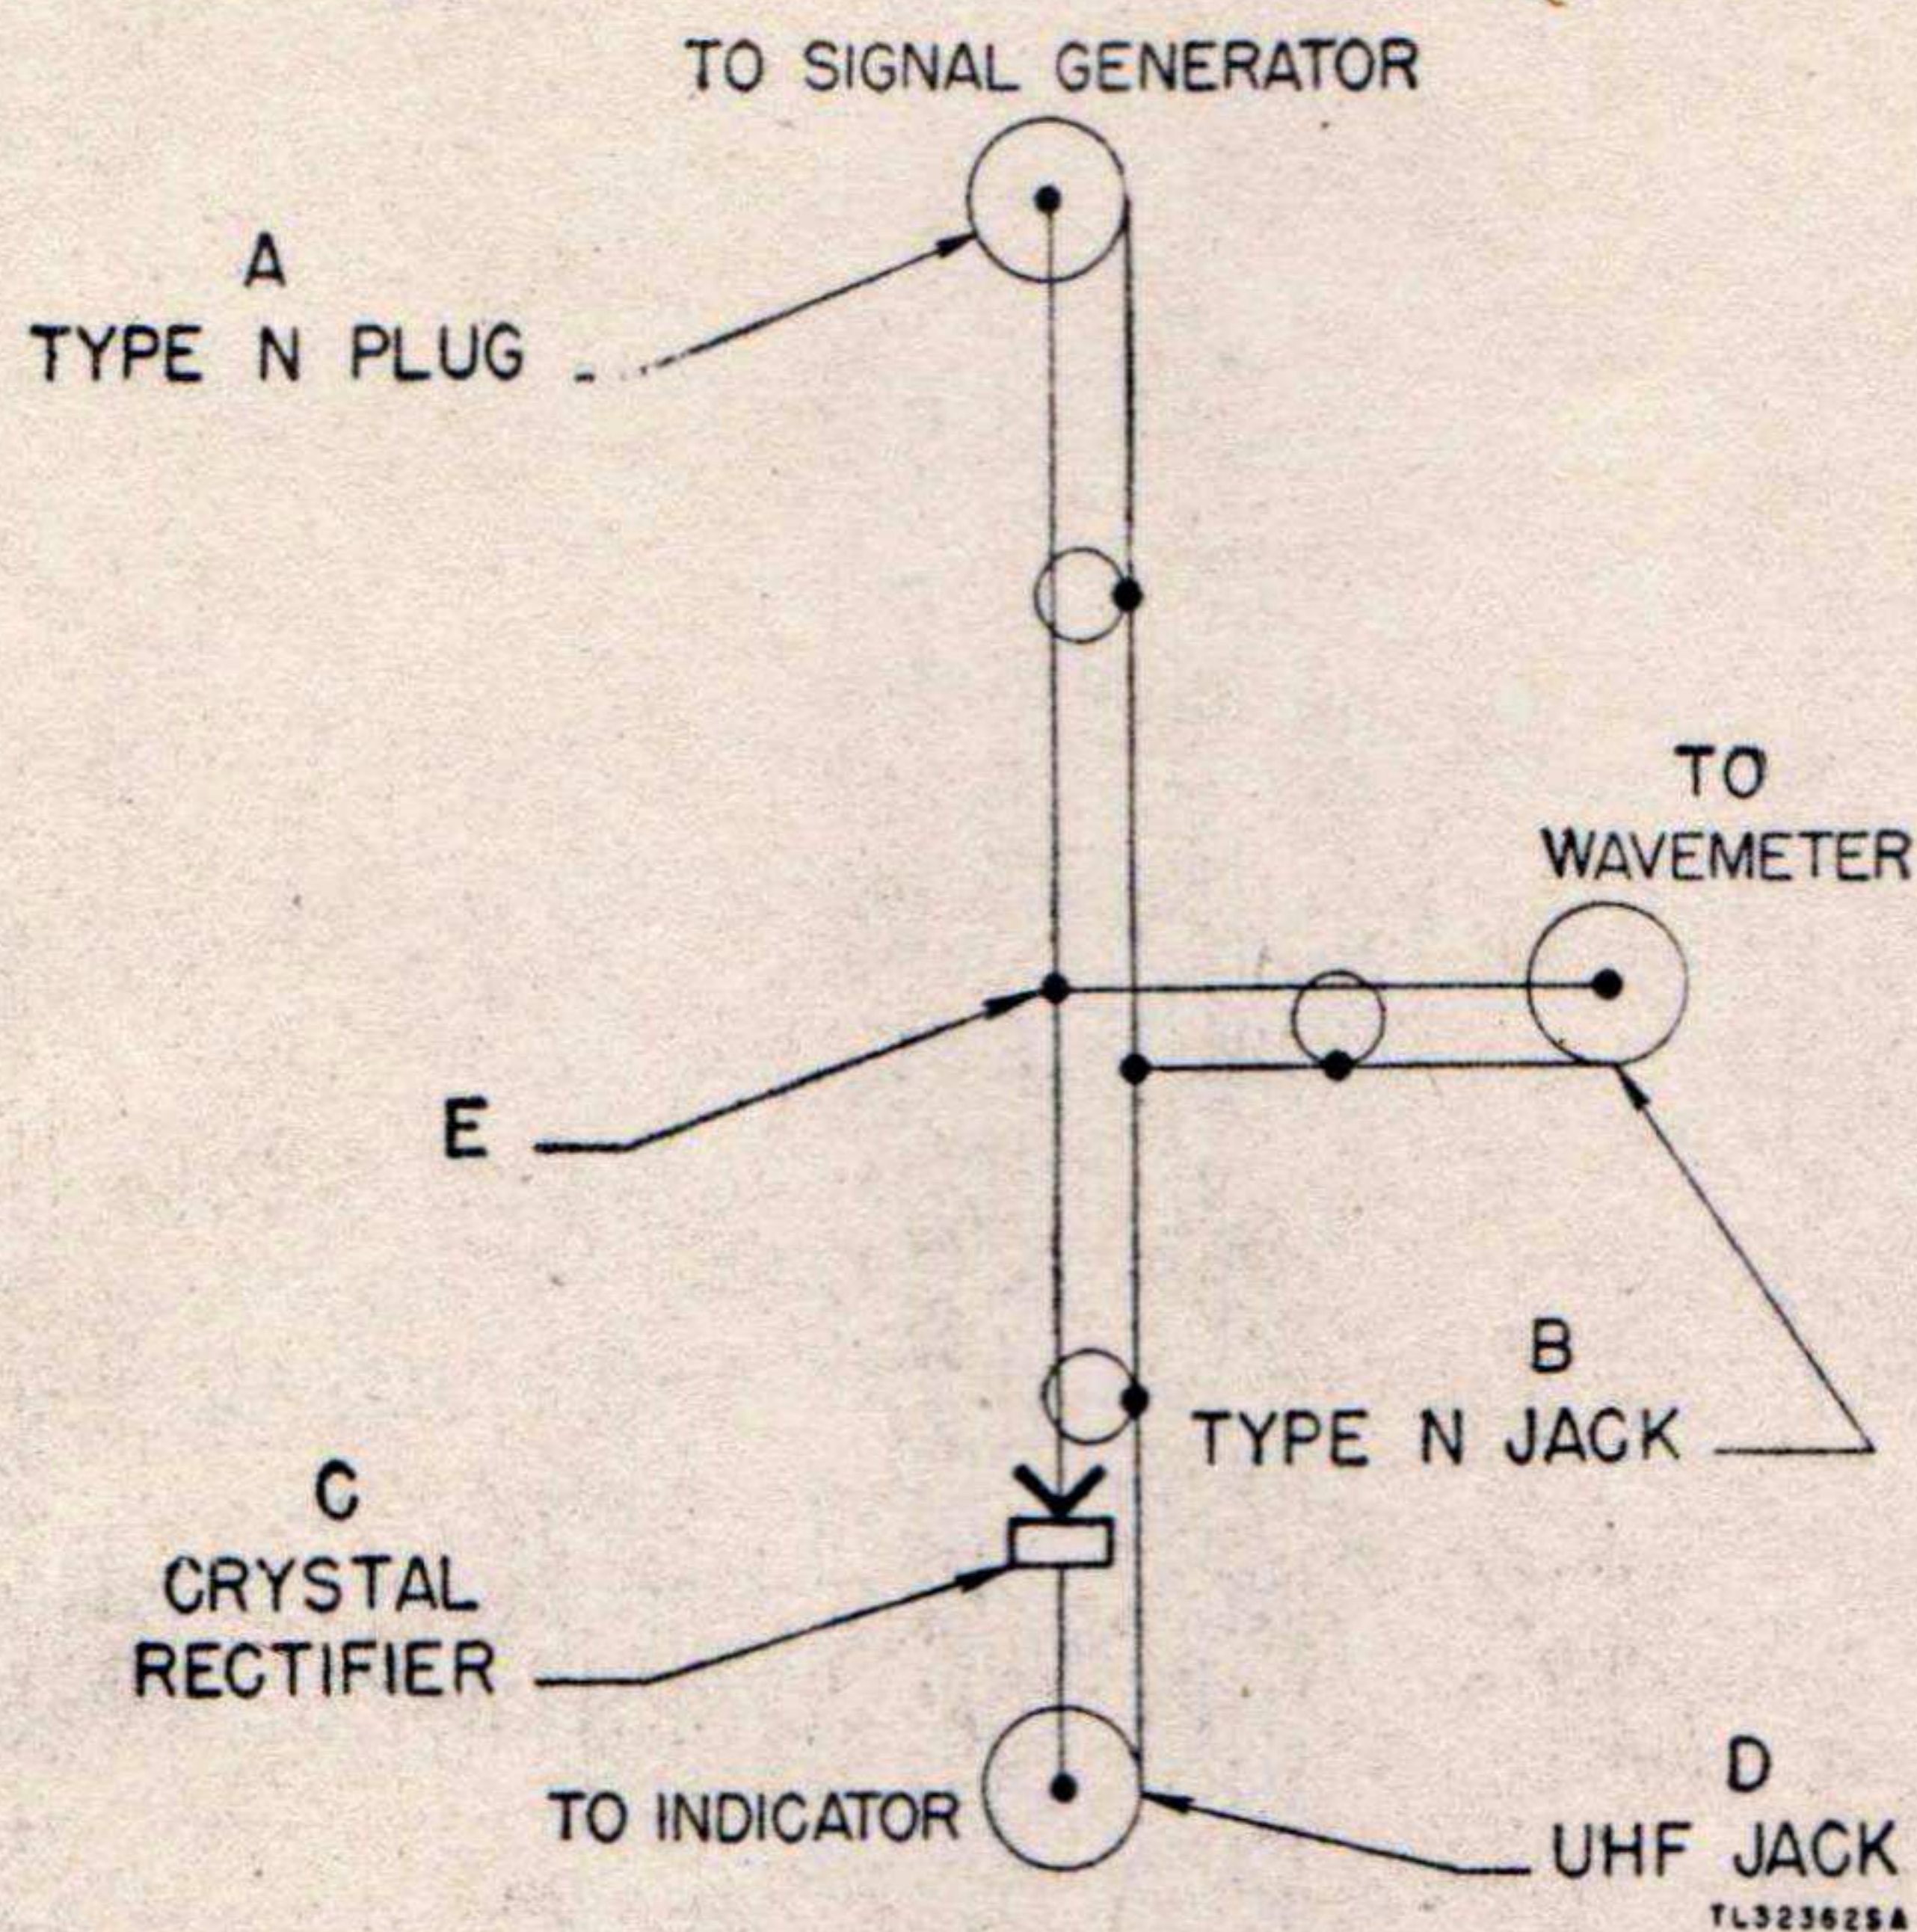

Figure 36. Adapter assembly, schematic diagram.
The adapter assembly is made up of standard type-N fittings, a crystal rectifier, and an ultra-high-frequency (u-h-f) jack. The assembly is essentially a T-section of coaxial line, one leg of which contains a crystal rectifier. Figure 36 shows the equivalent circuit of this arrangement of adapters.
a. When the signal generator is placed in operation with the adapter assembly connected (par. 44d), a fixed amount of power is fed into the type-N plug, A, (fig. 36) of the adapter assembly at the R. F. jack. This power is fed through the coaxial line to the type-N jack, B, and through the coaxial line and crystal rectifier, C, to the u-h-f jack, D. The crystal rectifier converts the r-f pulses into video pulses which can be seen on the test oscilloscope.